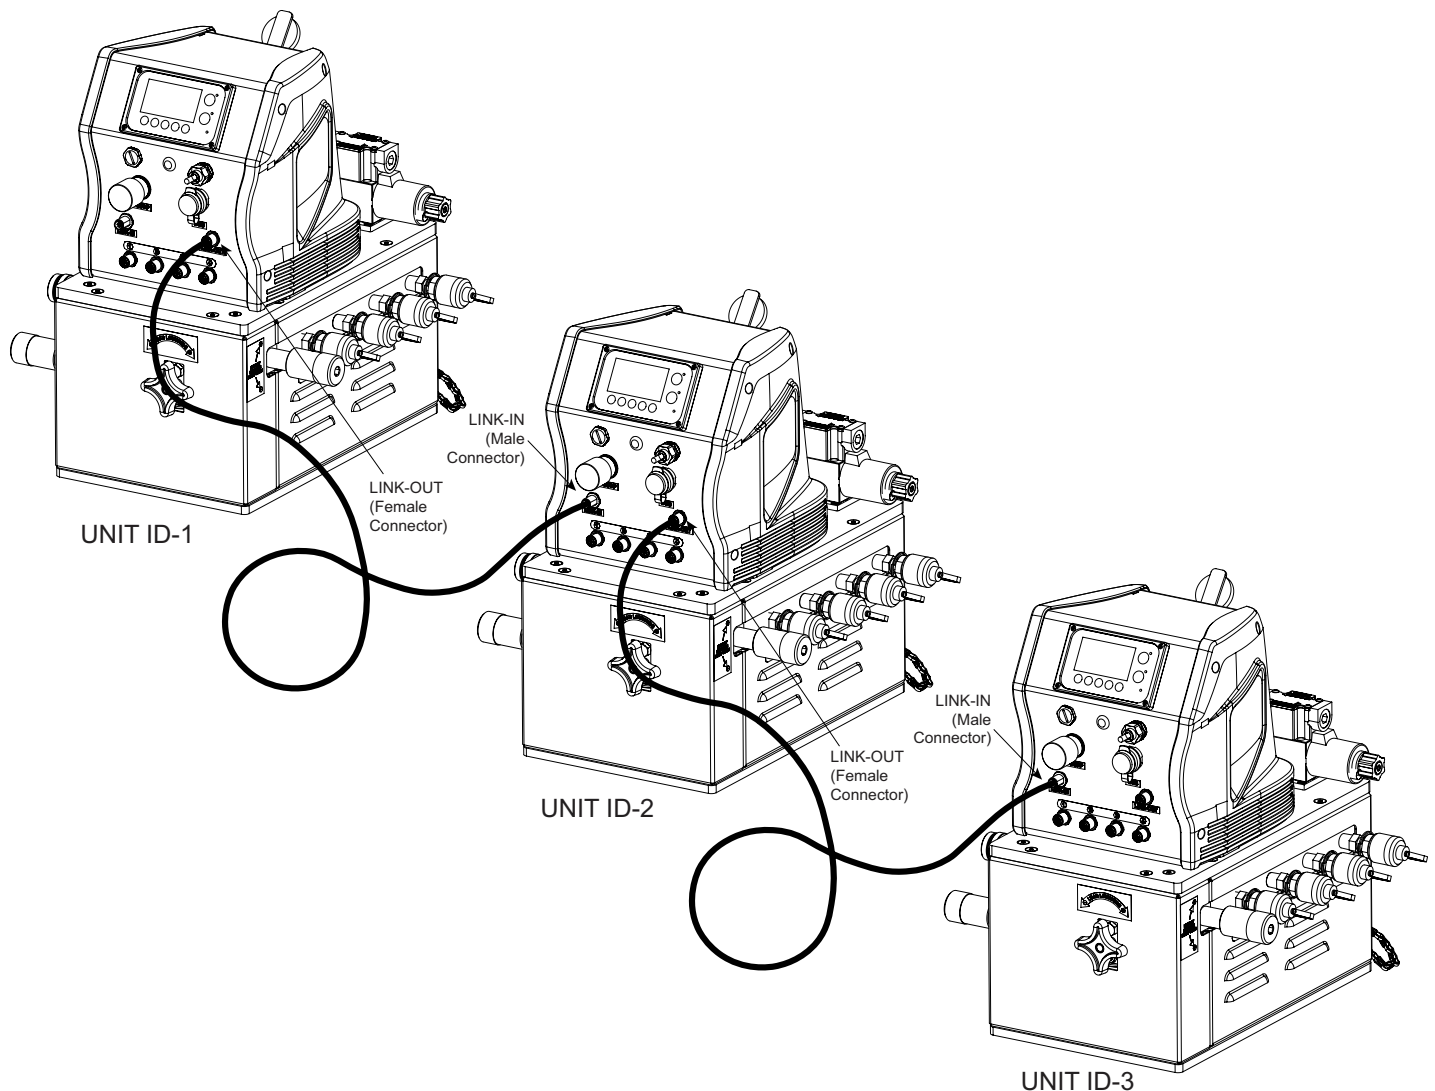

Fig. 8: Multiple eSync Unit Connections
- C. Connect one end of the cable's male connector to the female connector (Link-Out) on one eSync unit, and connect the other end of the cable's female connector to the male connector (Link-In) of the next unit in the sequence (see figure 8).